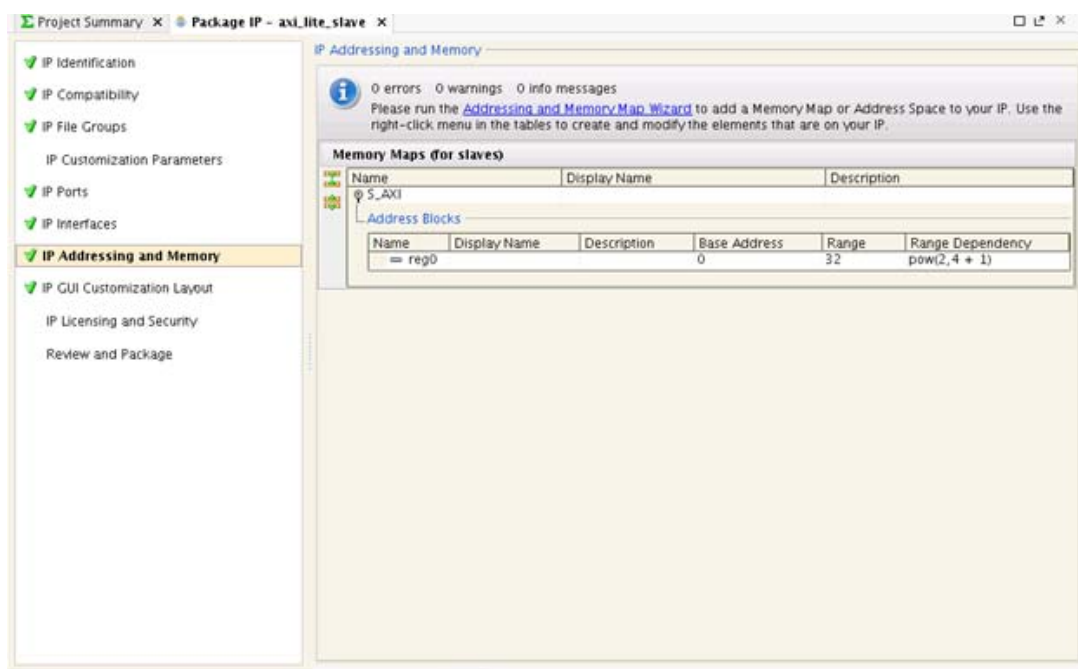

Figure 16: IP Addressing and Memory for AXI4-Lite Slave
1. Select **IP Addressing and Memory**. The 32 in the range field is the number of addressable bytes in the IP (Figure 16). This is the minimum address space that the peripheral must be assigned.